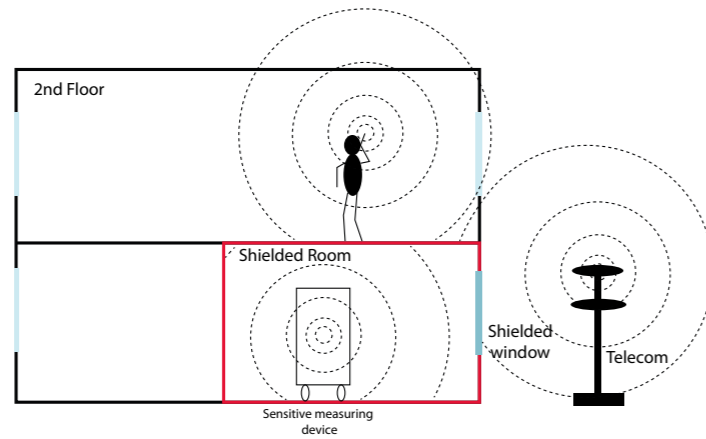

Figure 3 : Shielding works in both directions
- 3** **Shielding works in both directions:** items inside the shielded room are shielded from outside influences. (Fig. 3)